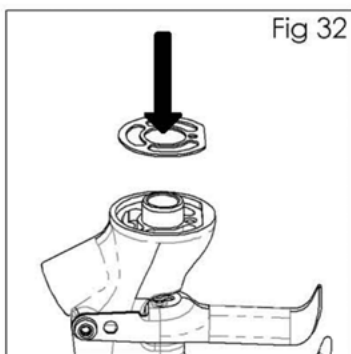

Fig 32
8. Place a new seal (10) into the front of the gun, making sure the flat of the seal is aligned to the flat in the gun. (See fig 32).